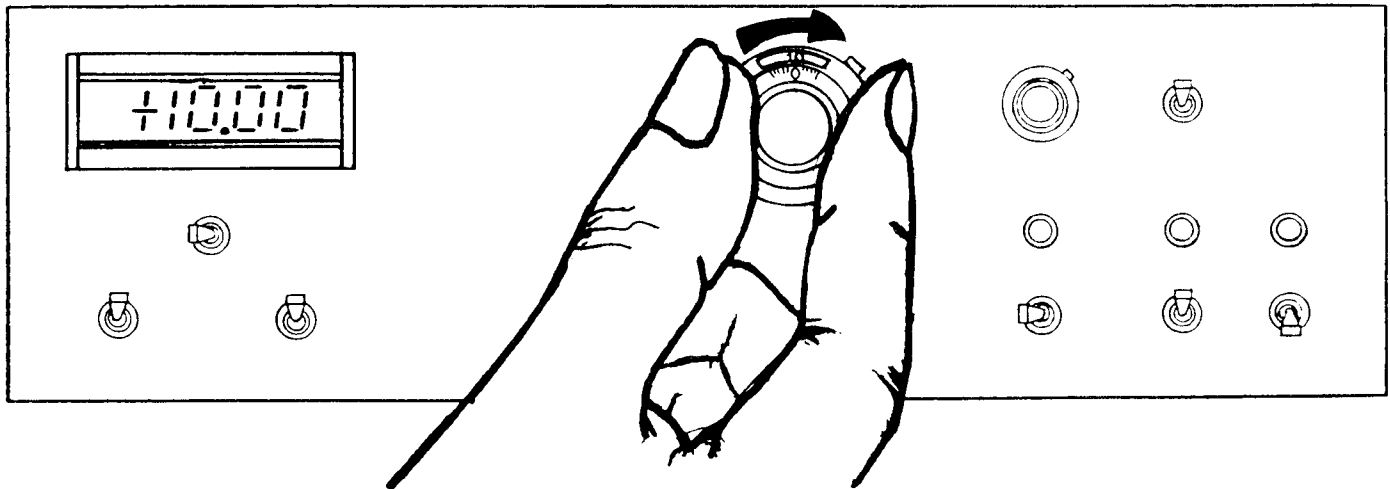

Figure 9. Turn Dial CW
i. Turn the COMMAND/OFFSET dial fully CW. You may need to unlock the dial to make this adjustment. Reset the lock when the dial is set. The DPM begins reading. When the dial is completely CW, the DPM reads +10.00 (see Figure 9).